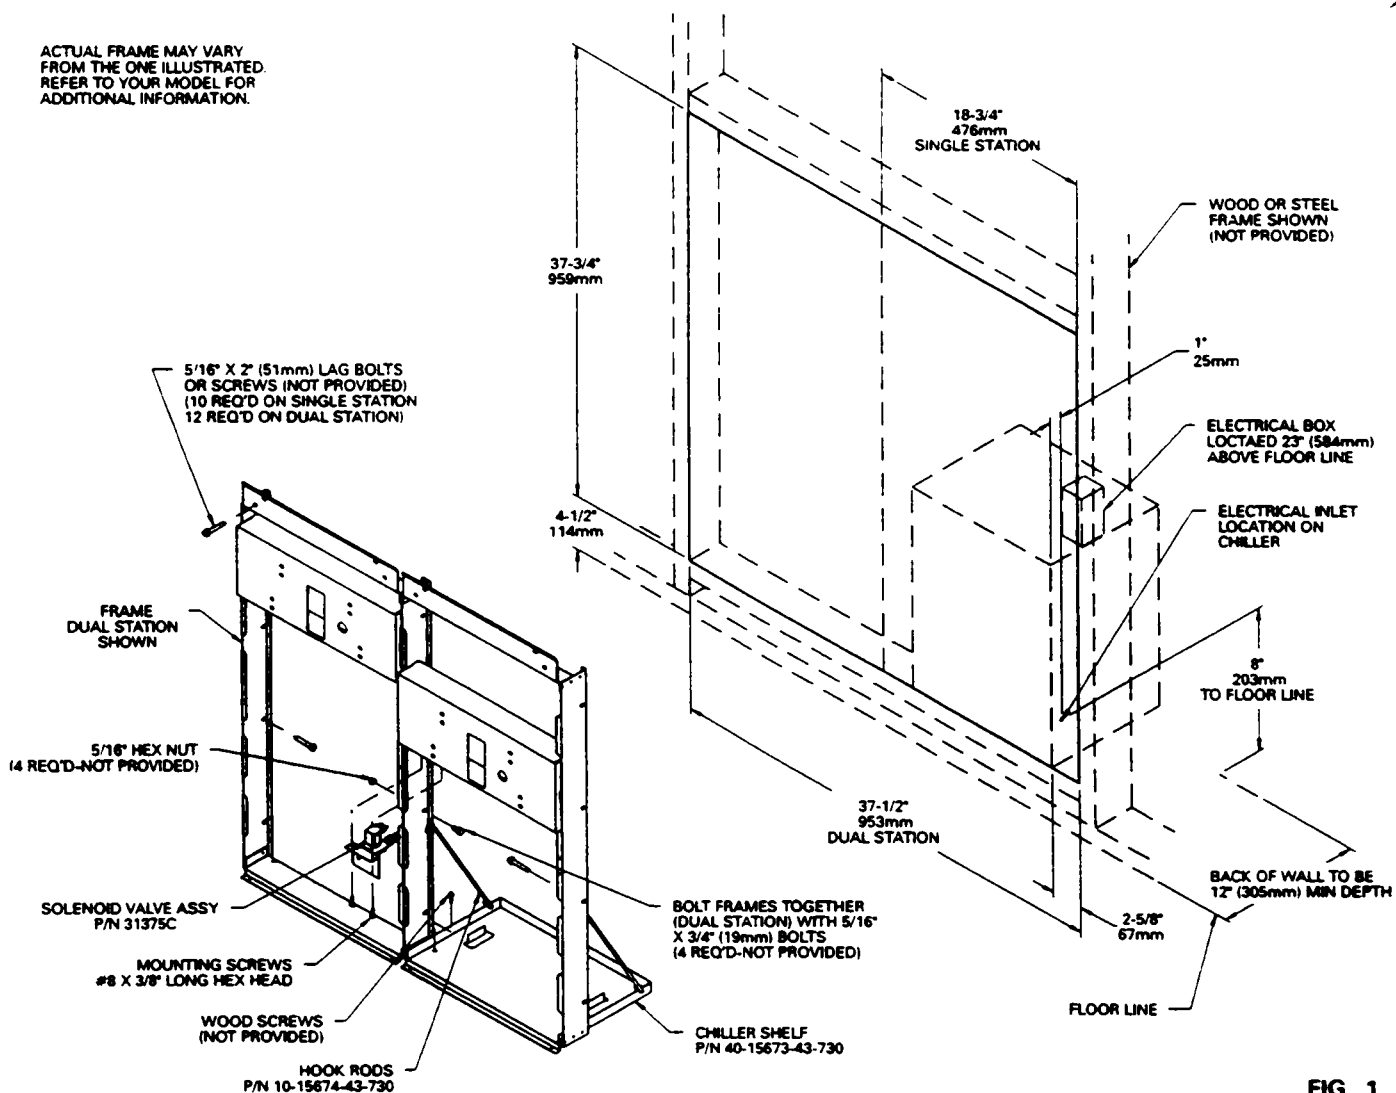
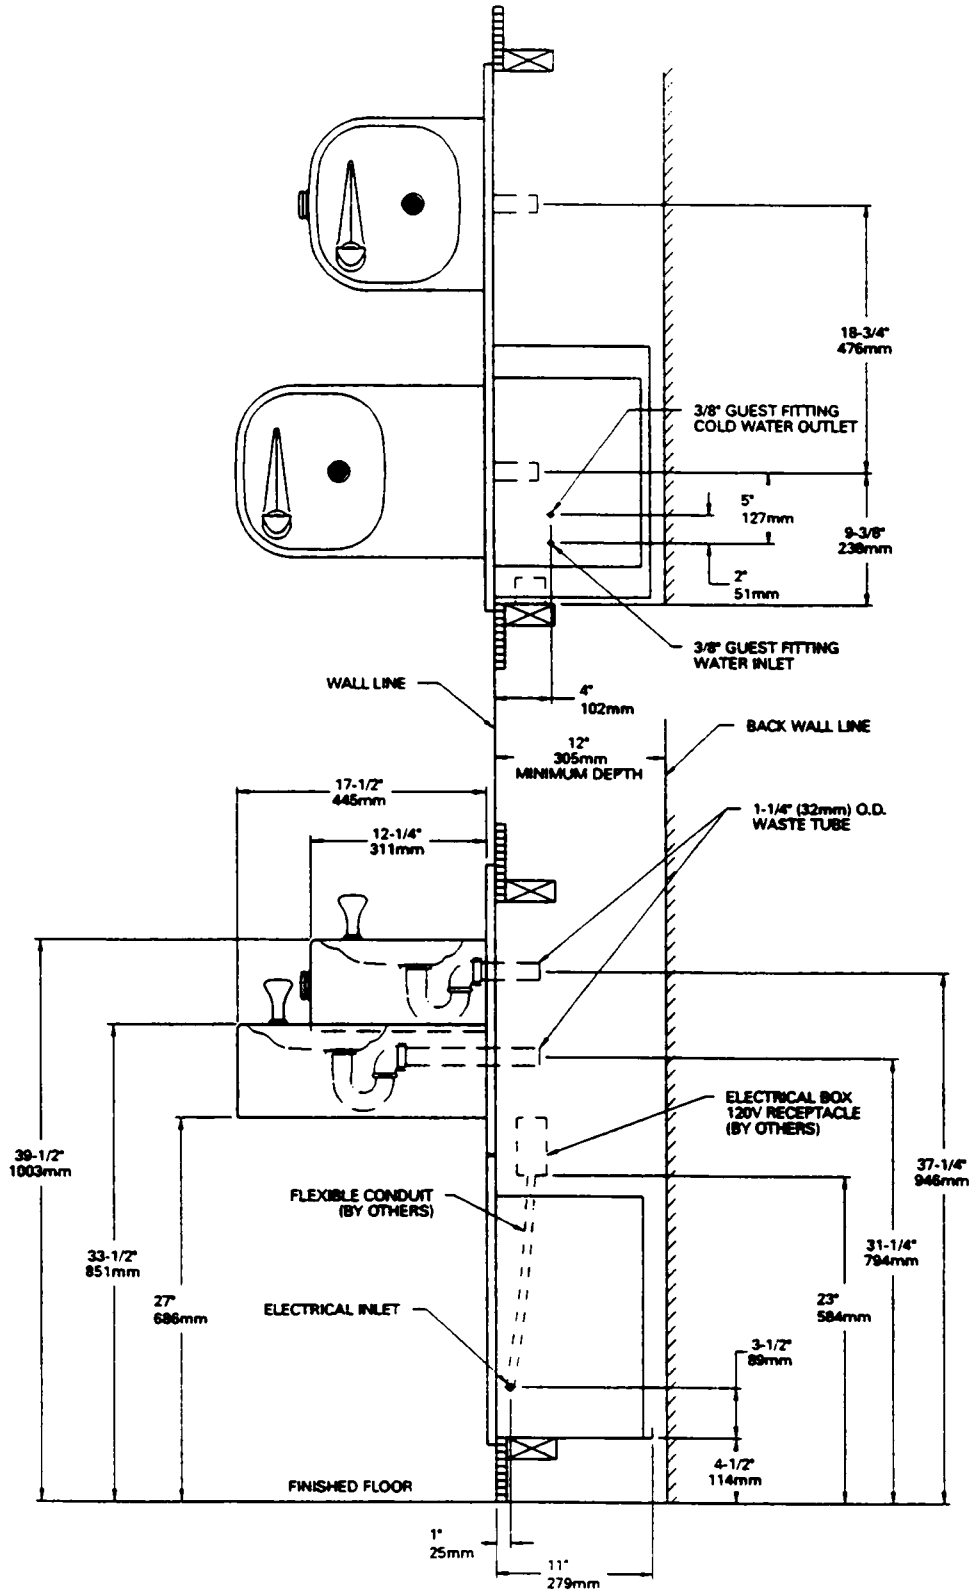

FIG. 1
FIG. 2
1. Cut a square rectangular wall opening above the floor line. (See Fig.1.) Single fountain requires an opening 18-3/4" (476mm) wide x 37-3/4" (959mm) high and 4-1/2" (114mm) above the floor line. Dual fountain opening is the same except the width needs to be 37-1/2" (953mm). These dimensions are required to obtain proper rim and bubbler heights for compliance with ANSI standard A117.1 and ADA. (See Fig.2)
**NOTE:** Building construction must allow for adequate air flow on both sides and top of remote chiller unit. Minimum of 4" (102mm) is required. (See Fig.1)
3. Install plumbing and electrical rough-ins. See Figure 2 for location of the supply water inlet to chiller and for the location of the waste water outlet. A junction box for a (3) wire, 10 amp branch circuit is provided on the inside of the chiller. (Standard 120 Volts, 60 Hz and single phase) See Figure 2 for the electrical inlet location.
4. Remove frame assembly and related hardware from packaging. On dual fountains the two frames must be fastened together thru the upright supports with (4) 5/16" x 3/4" (19mm) long bolts and nuts (not provided). Tighten securely.
**NOTE:** Frame with higher upper channel to be on left side. (See Fig.1)
6. Attach the chiller shelf support rods to the right side frame uprights at the second set of holes counting from the bottom and to the shelf at the (2) side holes. Line up the other shelf holes with the frame bottom holes and fasten the assembly to the wall using appropriately sized wood screws or bolts and nuts (not provided). (See Fig.1)
- 2. Attach solenoid valve assy to the mounting box** as shown in Fig.1.